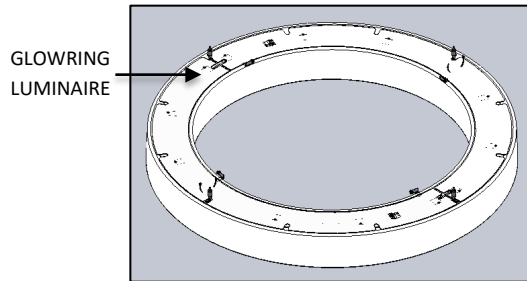

FIG. 4 GLOWRING LUMINAIRE (PRE-ASSEMBLED)
1. GLOWRING LUMINAIRE. (Pre-assembled as shown in FIG. 4)